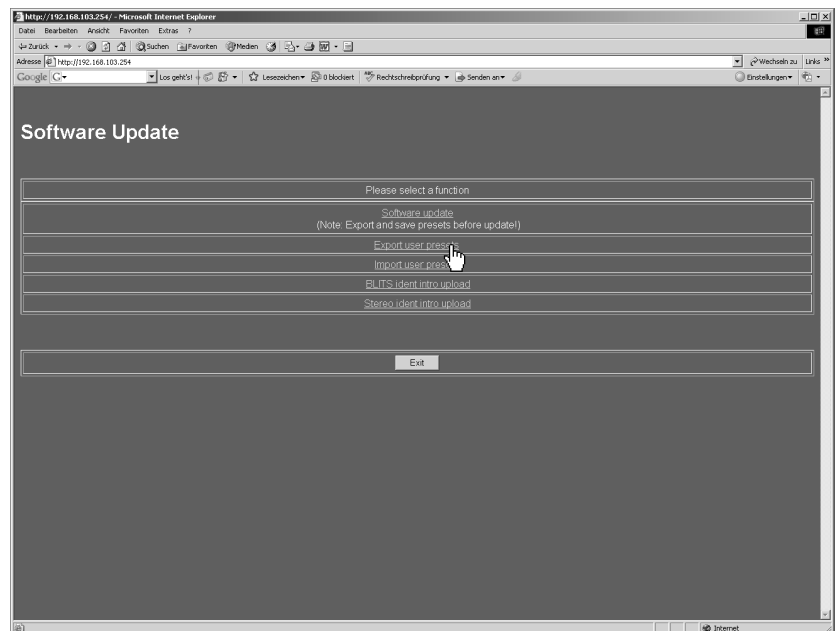
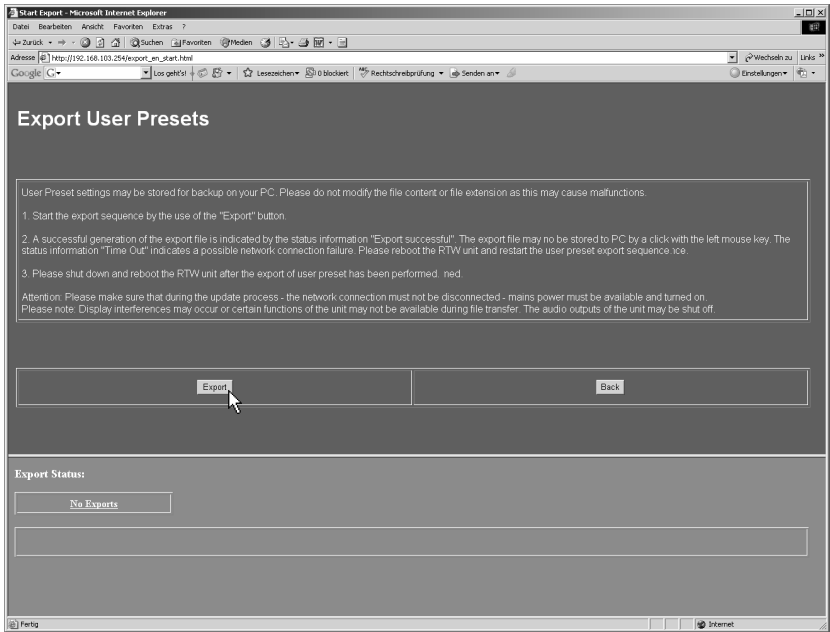
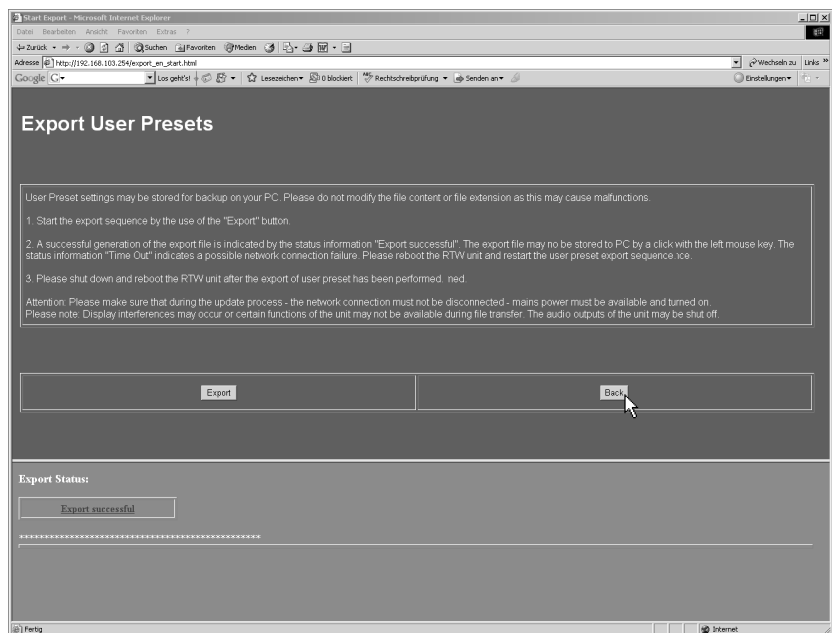

Fig. 8-10: Software Update Program menu in web browser
Fig. 8-11: Display of the Export menu page
Fig. 8-16: End of the export progress
2. The SurroundMonitor units should respond with a screen like the one shown in Fig. 8-10. Choose **Export user presets**. **Please note the instructions on the Export menu page** (see Fig. 8-11).
3. Please click the **Export** button (see Fig. 8-11).
8. When saving the file was successful please click the Back button (see Fig. 8-16) to get back to the home page (see Fig. 8-10).
10. If you want to leave the update program please click the Exit button (see Fig. 8-10). The SurroundMonitor units have to be restarted. Please wait approx. 5 s after shut down of the unit before you power it up again.